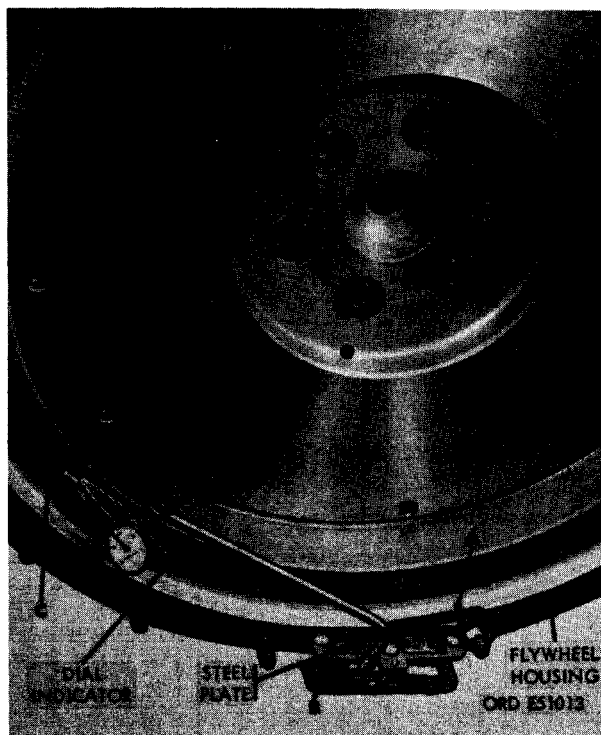

FIGURE 161. CHECKING FLYWHEEL RUN- USING A DIAL INDICATOR.
c. Check Flywheel Runout. Figure 161. (A) Install a small steel plate on flywheel housing and secure to transmission adapter stud using a 3/8-inch plain nut. (B) Mount magnetic base dial indicator on steel plate. Position indicator arm against flywheel face. Dial indicator gage must contact a clean surface on the flywheel during runout check. (C) Rotate flywheel one full revolution while pressing against crankshaft to eliminate the possibility of a false reading due to end play. Repeat the checking procedure to insure an accurate reading.
- (4) Check flywheel runout following instructions for figure 161.